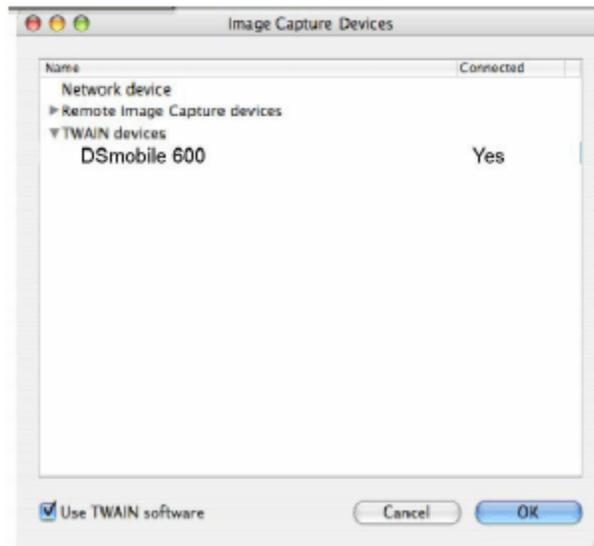

Figure 10. Use TWAIN Software Checkbox
8. Click on the “Use TWAIN software” checkbox at the bottom of the window (See Figure 10).